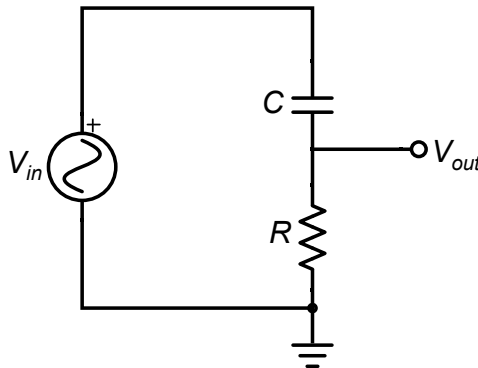

Figure 1 - A high-pass filter circuit is constructed with a resistor and capacitor.
In this portion of the lab, you will construct the RC circuit shown in Figure 1. You will then measure the peak-to-peak output voltage $|V_{out}|$ as a function of the driving frequency f . Copy the circuit diagram and table into your lab notebook.
2. Construct the circuit in Fig. 1 using $R = 1 \text{ k}\Omega$ and $C = 0.047 \text{ }\mu\text{F}$.